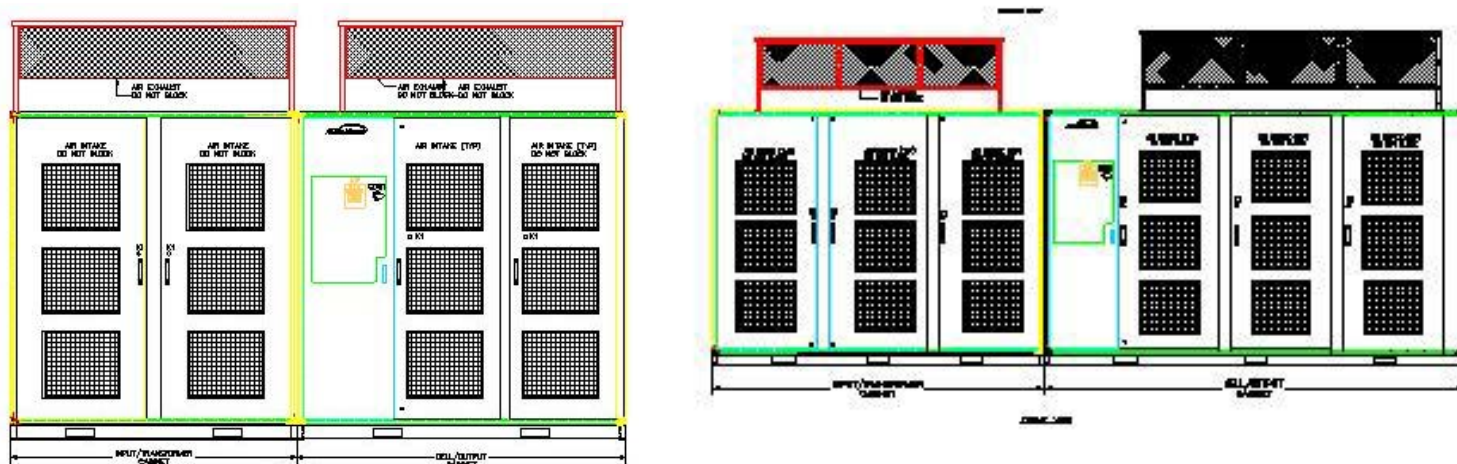

Figure 1-5. Typical 4,160V (Left) and 6,600V (Right) GENIIIe Perfect Harmony VFDs
- GEN IIIe style (shown in **Figure 1-5**)